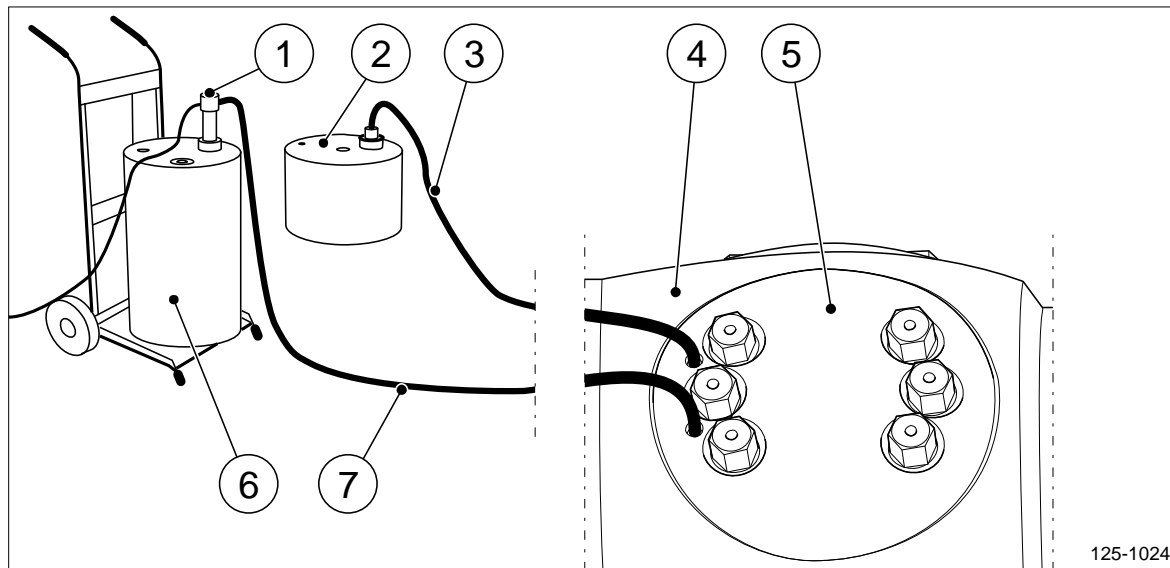

Figure 7 Example of flushing equipment.
6. Prepare the flushing equipment (see figure 7). Make sure all hoses are properly connected to the pump and collecting container.
23. Start to flush the blade flange with the oil pump unit (pos 1, figure 7). Use minimum pressure value at first. Slowly increase the pressure until grease and then flushing oil starts to evacuate through the open blade bolt holes.
25. When flushing oil starts to evacuate to the excessive oil container (pos 2, figure 7) the flushing of the blade flange is complete.